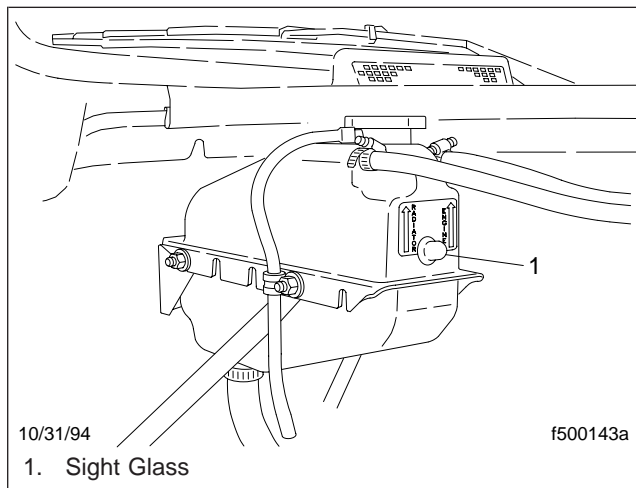

Fig. 9.3, Surge Tank with Sight Glass
7. Check the coolant level in the surge tank sight glass. See Fig. 9.3. Check the condition of the radiator fins, the A/C condenser, and the charge air cooler (as equipped).